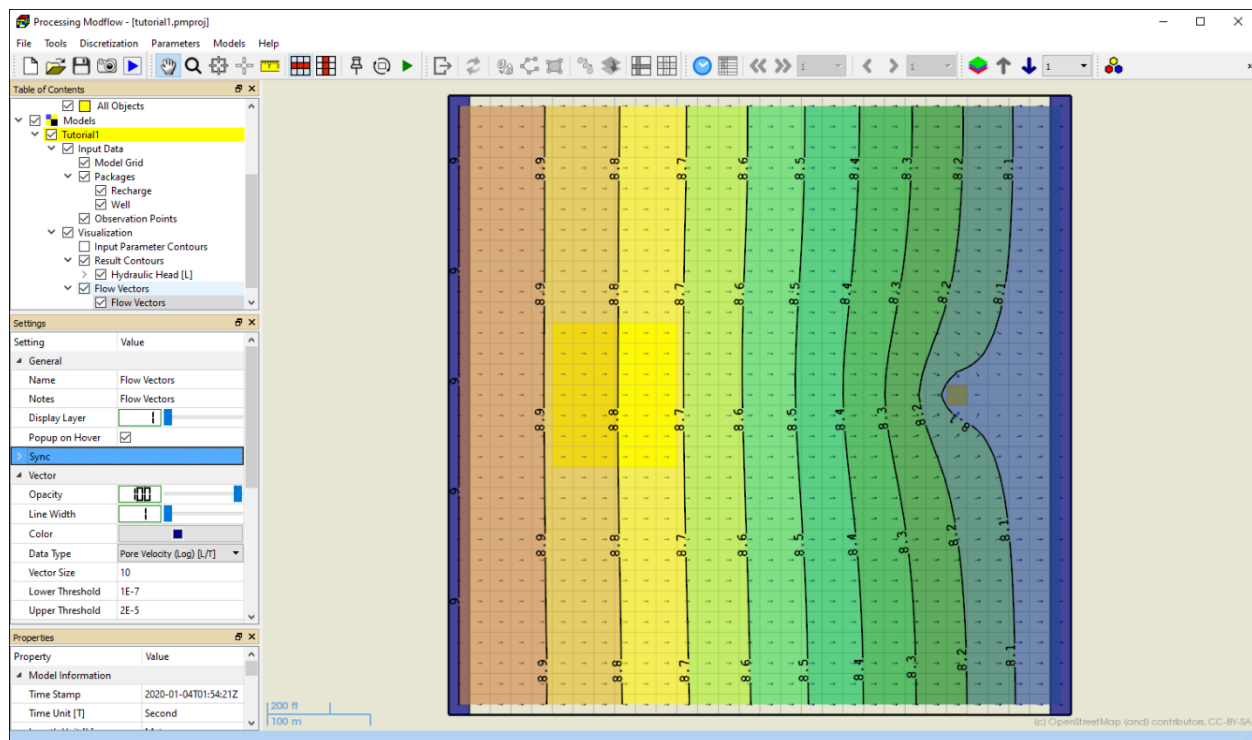

Figure 11. Flow Vectors and color-filled hydraulic head contours
1. Right-click on Visualization > Flow Vectors of the model item on the TOC and select Add from the popup menu. PM will add an item, called “Flow Vectors”, to the TOC, and will display the flow vectors on the Map Viewer. The flow vectors in Layer 1 should look like Figure 11.